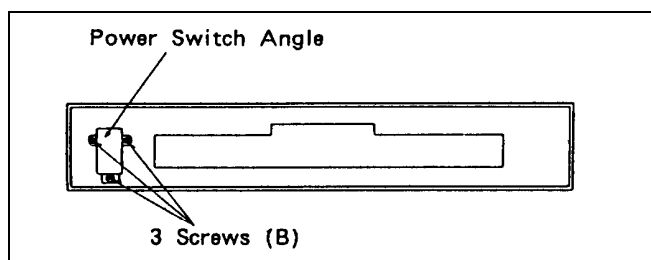

Figure 7-17-2 Power Switch Angle Removal
2. Unscrew 3 screws (B) and remove Power Switch Angle as shown in Figure 7-17-2.